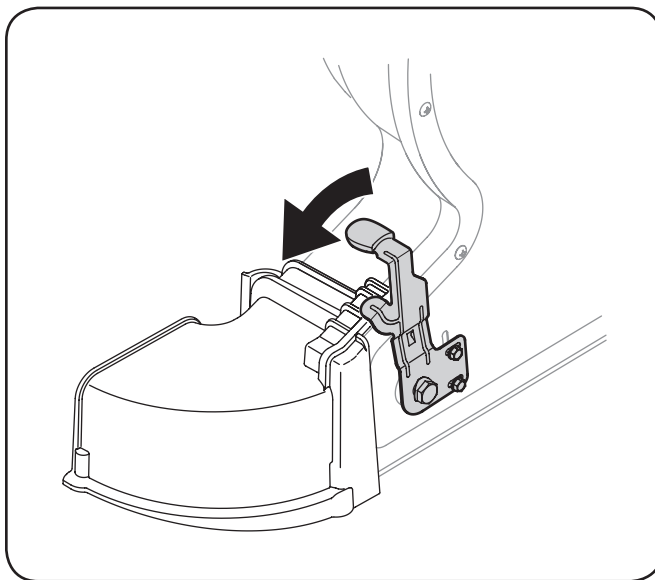

Figure 4-5
3. Pivot the direction lever (3) to the middle position to lock the chute attachment into place. See Figure 4-5.